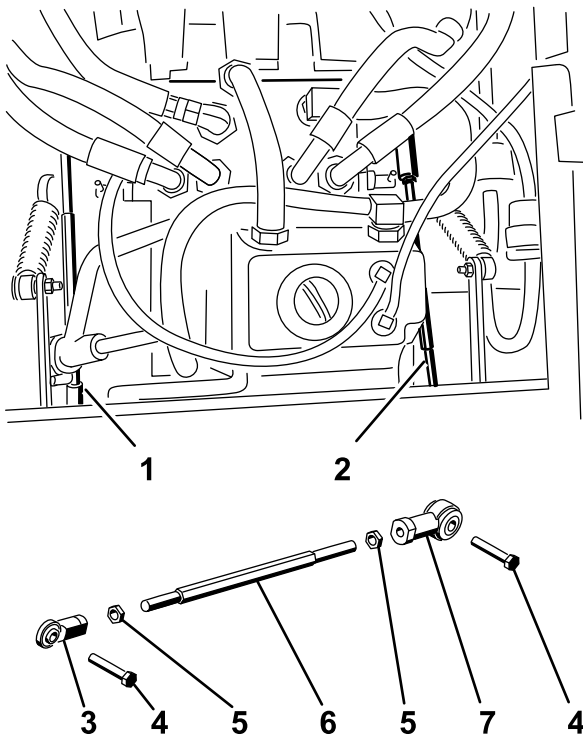

Figure 63
5. Adjust the pump rod length on one side by rotating the hex shaft, in the appropriate direction, until the corresponding wheel is still or slightly creeping in reverse (Figure 63).